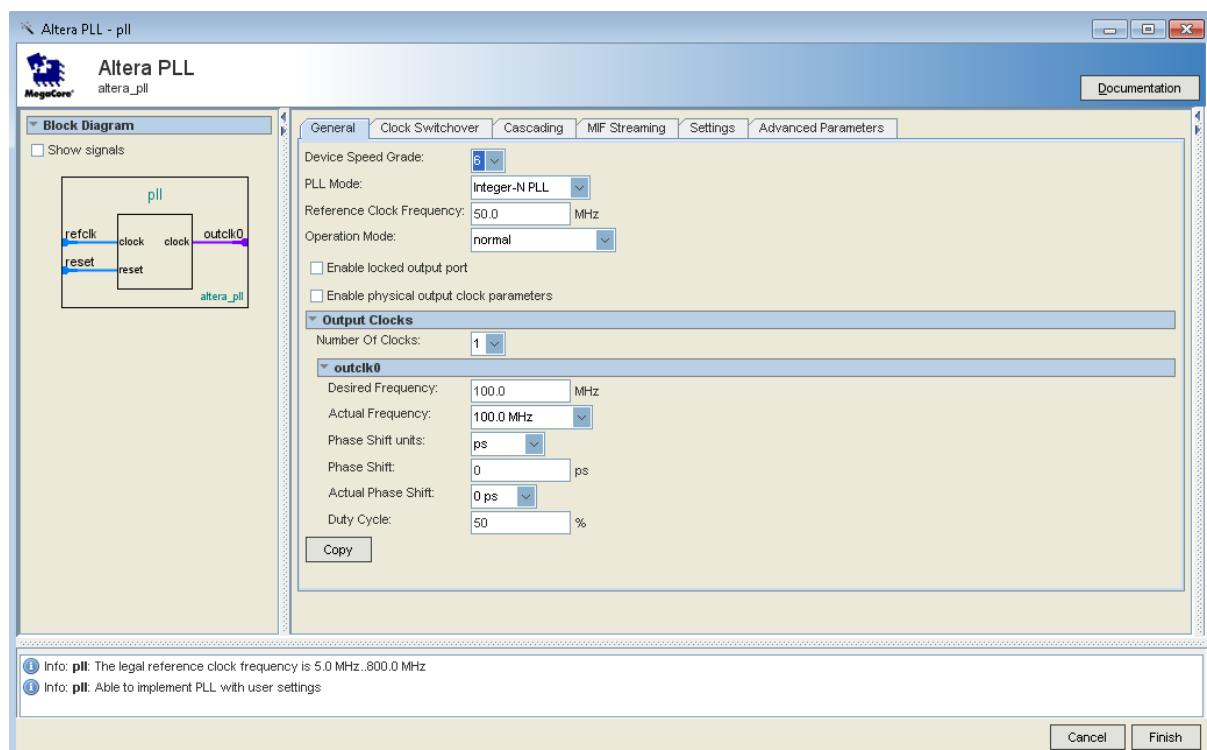

Figure 3-11 Selections of Altera PLL windows
6. Turn off the Enable locked output port option on IP windows. As you turn it off, pin disappear from the PLL block's graphical preview. See **Figure 3-11** for an example.